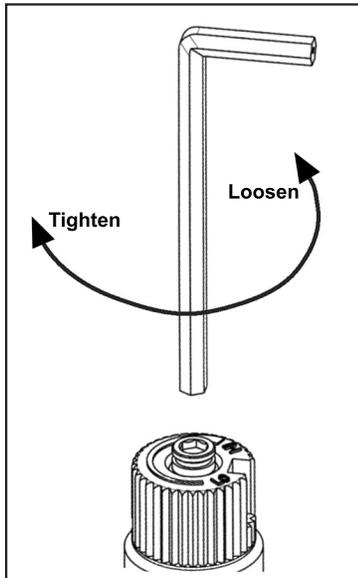

Figure 10: Removing valve screw.
b) Insert a  $\frac{5}{32}$ " or 4 mm Allen wrench into the hexagonal key-way of the screw (see Figure 10), rotate it counter-clockwise until it is free and extract it.
e) Using the Allen wrench as shown in Figure 10, rotate the screw clockwise until a torque of 9 inch lbs. **WARNING!** Do not over tighten the screw. It is recommended that you grip the wrench by the short side.